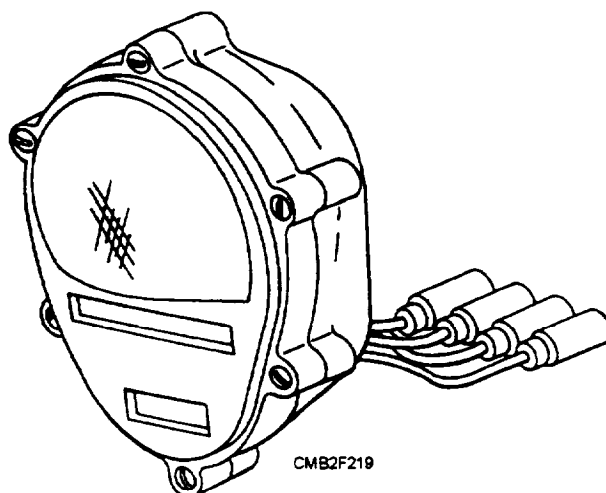

Figure 2-67.—Military composite light.
- The COMPOSITE LIGHT (fig. 2-67) is currently the standard light unit that is used on the rear of tactical military vehicles. The composite light combines service stop, tail, and turn signals with blackout stop and taillighting.